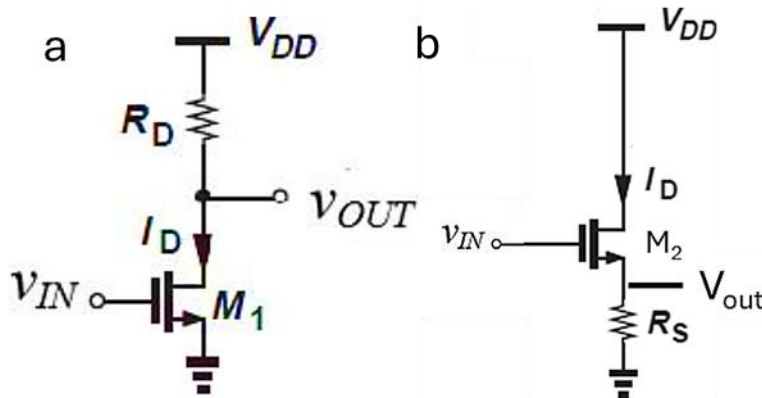

Figure 4: Circuits for characterization. Use a & b to model Stages 1 and 2 respectively.
- Perform a quick characterization as needed to obtain information about MOSFET properties (threshold voltage, operating regions etc.). You should do this by setting the circuit shown in figure 4, $V_{DD} = 5V$ and Varying V_{in} from 0 to 5V. Identify the region where you see a swift change in V_{out} . Note down the values of V_{out} in that region (V_{in} should be 1-2V for both M1 and M2). Do this for figure 4a and 4b. Label each of the MOSFET as M2 and M1